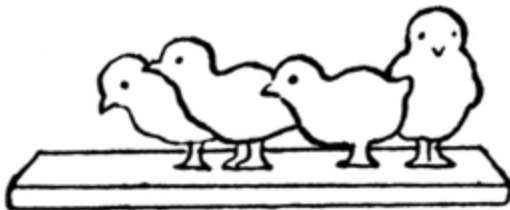

FIG. 438
3. **A Farmyard**, with trees, ducks, cows, etc. Figs. 438 to 443 are patterns of farmyard animals. There is considerable educational value in the drawing and cutting out of the simple outlines necessary in fret-wood trees or animals. It will help children to think in lines, as it were, and to draw boldly.